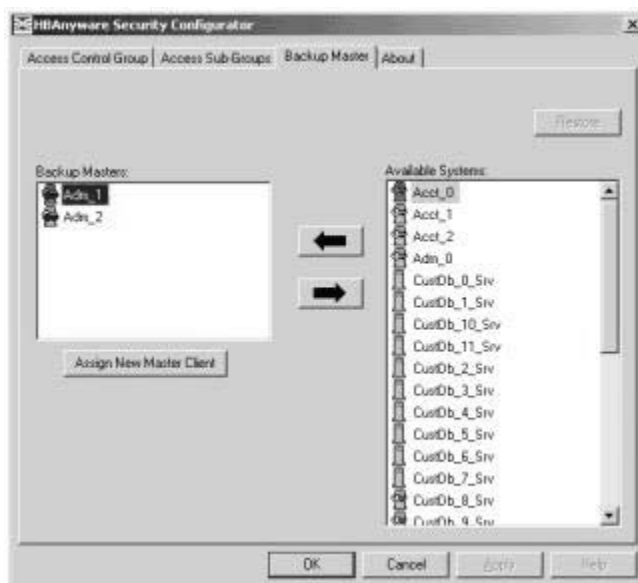

Figure 58: HBAnyware Security Configurator, Backup Master Tab with Backup Masters
2. Click the **Backup Master** tab (see Figure 58)